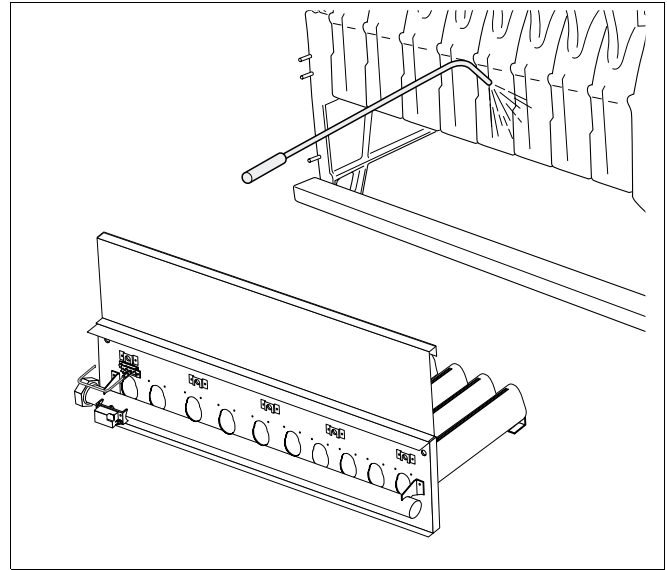
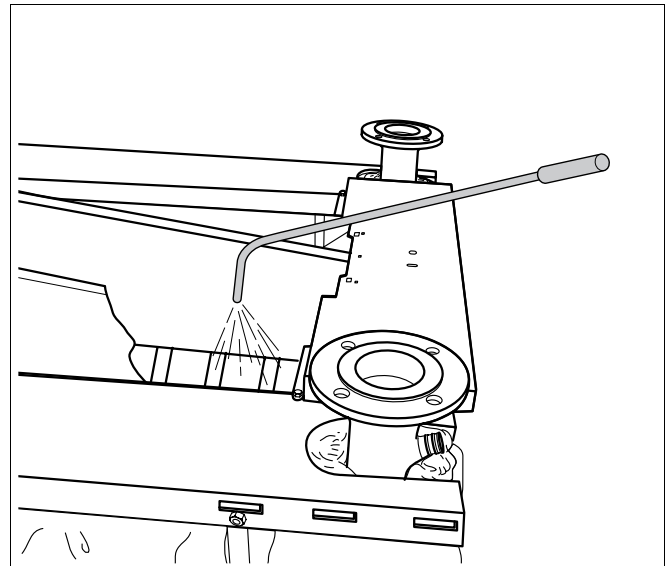

Fig. 19 Wet-cleaning the boiler
Fig. 20 Wet-cleaning the boiler
- Evenly spray hot gas flues from the top and the sides with cleaning agent (Fig. 19 and Fig. 20).